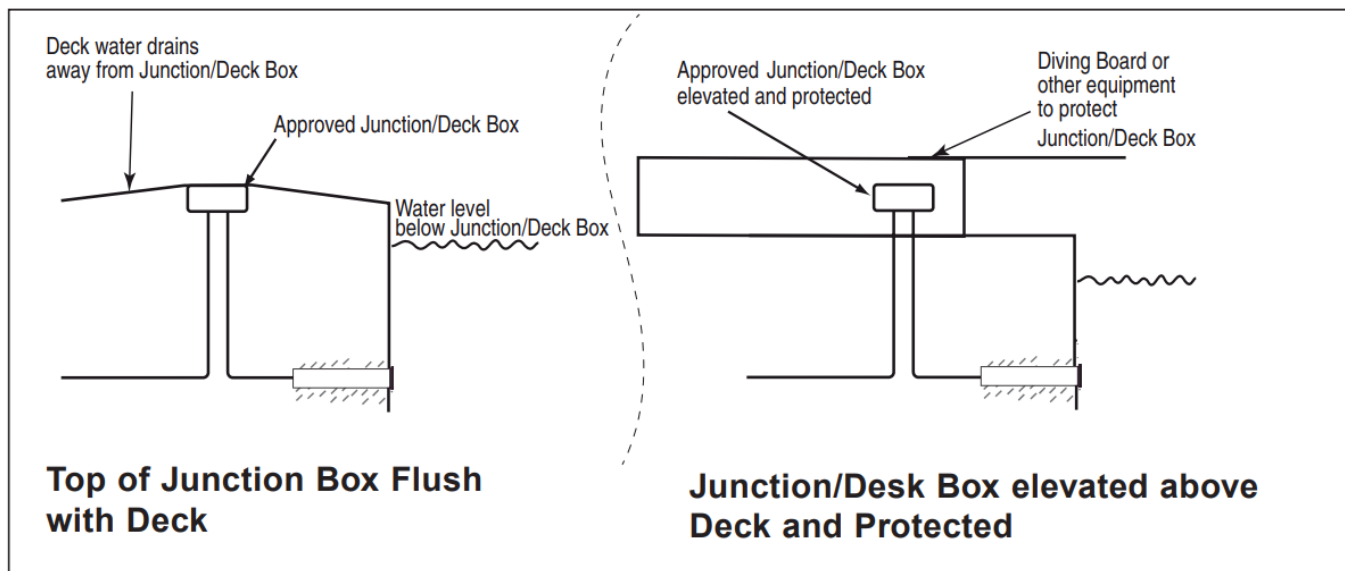

Figure 1, Canada.
2. At the 12 VAC transformer or junction box, cut off any extra cord. Leave at least 15.2 cm (6 in) of cord in the Junction Box or transformer to facilitate the light installation, niche inspection. Cut off any extra cord. See Figure 2 on page 7. For junction box installation for Canada, see Figure 1 on page 4.
3. Strip back the outer cord jacket of the wires to expose the two (2) insulated conductors. Strip back the two conductors. Be careful not to damage the copper conductor.
4. Connect the two (2) conductors to the corresponding circuit wires in the Junction Box (black wire to power, white wire to common). Secure the Junction Box cover.